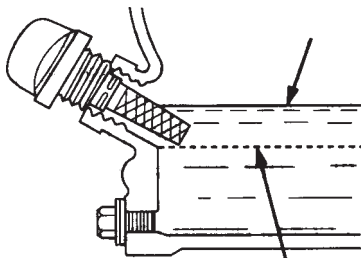

Figure 8. Engine Oil Dipstick (Oil Level)
4. If the engine oil level is low (Figure 8), fill to the edge of the oil filler hole with the recommended oil type (Table 6). See Table 2 for the oil capacity of your type engine.